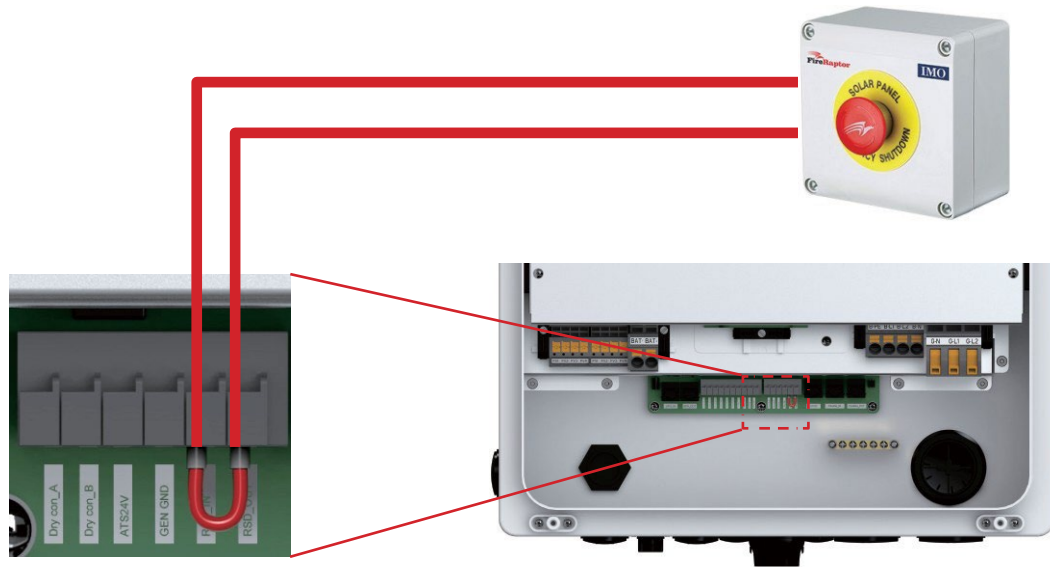

Figure 5.24 External RSD Initiation Switch
2. Remove the red jumper from the RSD\_IN and RSD\_OUT terminals (see Figure 5.24)
1. Disable the internal transmitter by removing the red jumper (see Figure 5.24)